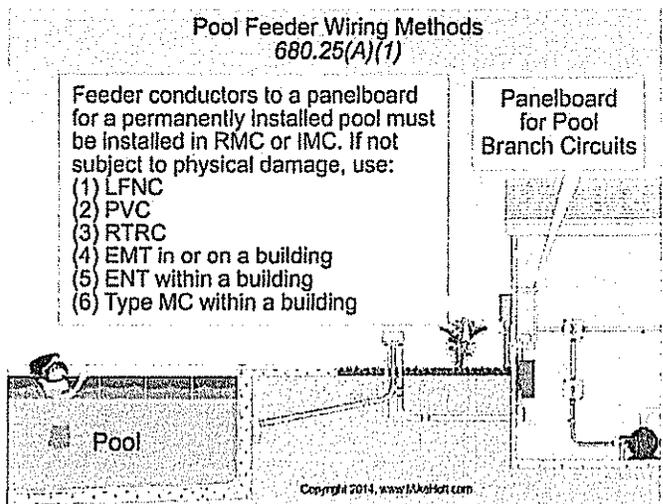

Figure 680-38
**(A) Wiring Methods.**
**(1) Feeders.** Feeder conductors to panelboards containing permanently installed pool, outdoor spa, or outdoor hot tub equipment circuits must be installed in rigid metal conduit or intermediate metal conduit. If not subject to physical damage, the following wiring methods are permitted: Figure 680-38